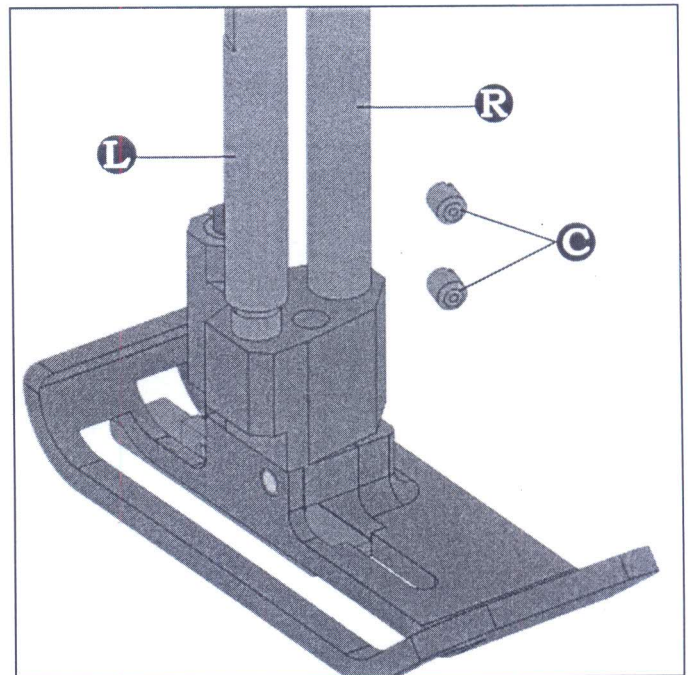

FIGURE 8
Remove the needle and rotate the pulley until the feed dog is below the throat plate. Depress the presser foot lifter lever (for ST 6006 UDDR) and insert the presser foot bars (L and R, Fig.8) into the presser foot shank between the two presser bars and the presser foot. The left presser bar (L) should move freely up and down along its axis within the presser foot shank.